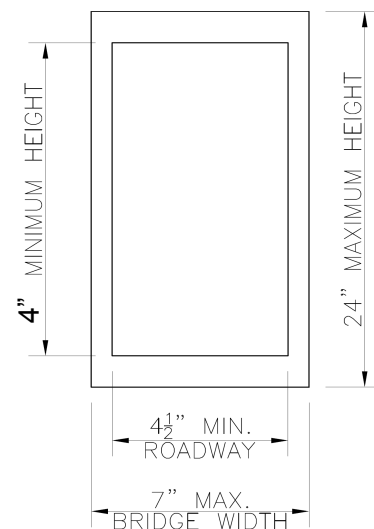

Figure 2: Cross Section of Bridge with Roadway through Bridge
3. The overall width is limited to 7 inches maximum. The roadway width shall be a minimum of 4 inches. The roadway is defined as the distance between the sides of the bridge (in the case of a through truss) or the overall width of the bridge when the roadway is on top of the bridge. See Figure 2 and Figure 3.
5. The 4” minimum shown in Figure 2 only applies if the roadway is inside the bridge. There is no minimum height if the roadway is on the top of the bridge. See Figure 3.